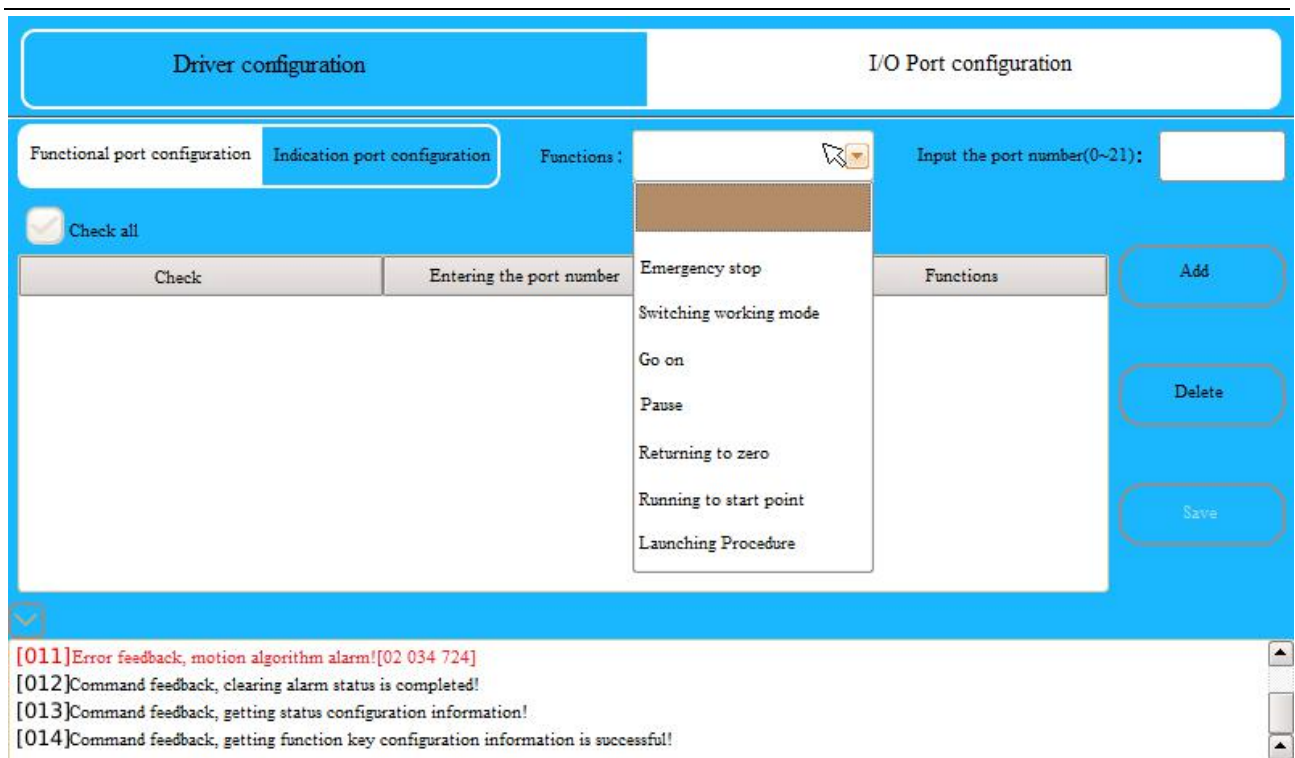

Fig. 3.3 Functional Port Configuration
**(1) Functional port configuration:** The control system provides 7 special functions of “emergency stop”, “Switching Mode of Work”, “Go on”, “Pause”, “returning to zero”, “Running to start point” and “Launching Procedure”. I/O input port number is “0-21”. You can configure these functions arbitrarily, as shown in Fig. 3.3. The same special feature allows different I/O input ports to be configured, but only one special function is configured for the same I/O input port, and in order to take effect, the “Save” button needs to be clicked after the “Add” is configured; I/O input ports cannot be used again as common I/O input ports if special functions are configured, but after the special functions configured of the “I/O input port” are “deleted”, the “I/O input port” becomes the common I/O input port again.